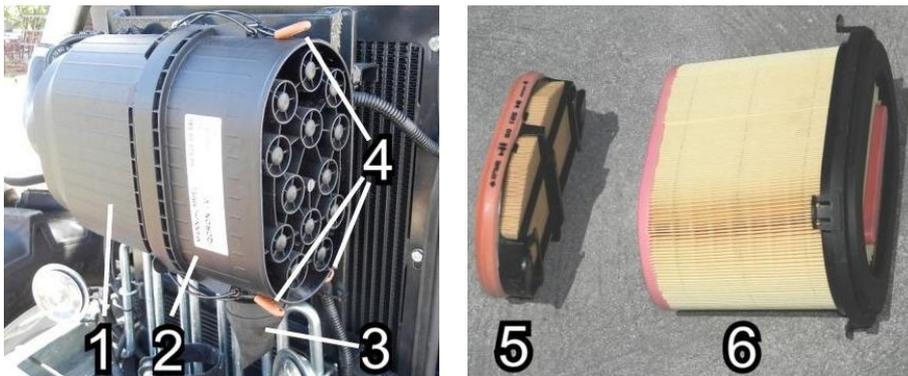

Fig. 5.3.6. Dry air cleaner.
Remove any accumulated dust from the dry air cleaner dust collector every 10 hours of operation, or daily in extremely dusty conditions (Fig. 5.3.6);
- remove the Cleaner cover (4 - Fig. 5.3.6) by releasing 3 latches (2 - Fig. 5.3.6) and carefully slide the element (6 - Fig. 5.3.6) out the filter housing,